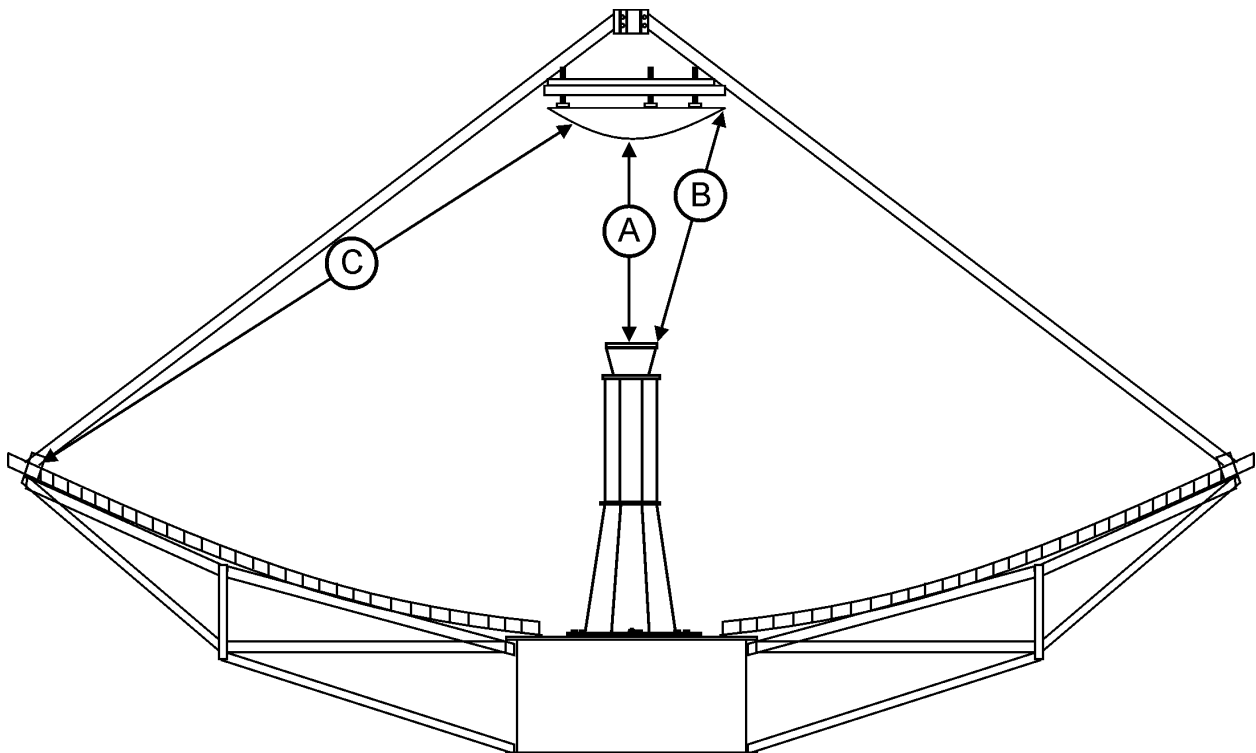

Figure 3-1. Feed, Reflector, and Subreflector Distances
2. To establish a reference, measure the distance from the feed window to the subreflector apex as shown in Figure 3-1, distance A.
3. If tilt was not adjusted using theodolite, measure the distance between the edge of the subreflector and each corner of the feed horn as shown in Figure 3-1, distance B. Using the subreflector adjustment mechanism, adjust the subreflector until all four distances are equal; this removes any tilt with respect to the feed.
4. If the translation off center was not adjusted using theodolite, measure from the center of the subreflector to each spar pickup point on the dish surface as shown in Figure 3-1, distance C. Any convenient and repeatable measurement point is acceptable as long as it is associated with the machined holes in the spars or the spar tabs. These three measurements should be equal within 0.1-inch nominal. If they are not equal, re-evaluation of the antenna geometry and installation is necessary.